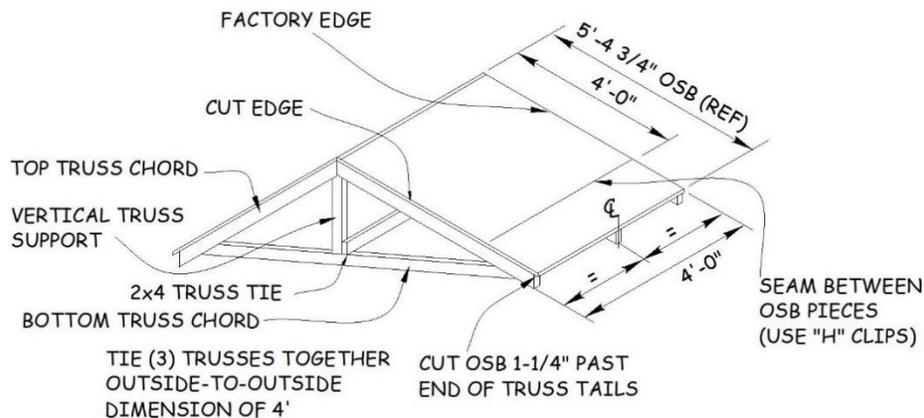

Figure 22-9. Shed Truss Component Assembly – Two Req'd.
3. Cut two pieces of 2x4 exactly 4' long to create "truss ties". Set three trusses on their tails. Set one of the 4' truss ties on edge on top of the bottom truss chord and tight to the vertical truss support (see Figure 22-9). Position the truss tie flush to the outside edges of the two end trusses. Secure the truss tie to the two vertical truss supports on the end truss braces with two 16d nails for each truss. Center the middle truss 24" from the outside edges of the end trusses and nail the truss tie to the vertical truss support with two 16d nails.